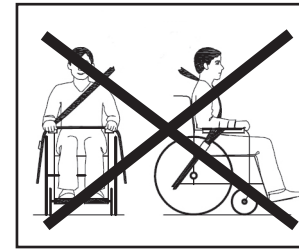

Figure 6
- The belt must not be resting against armchair components (like armrests or wheels) as a result of which it is no longer fully supporting the body of the user (see figure 6).